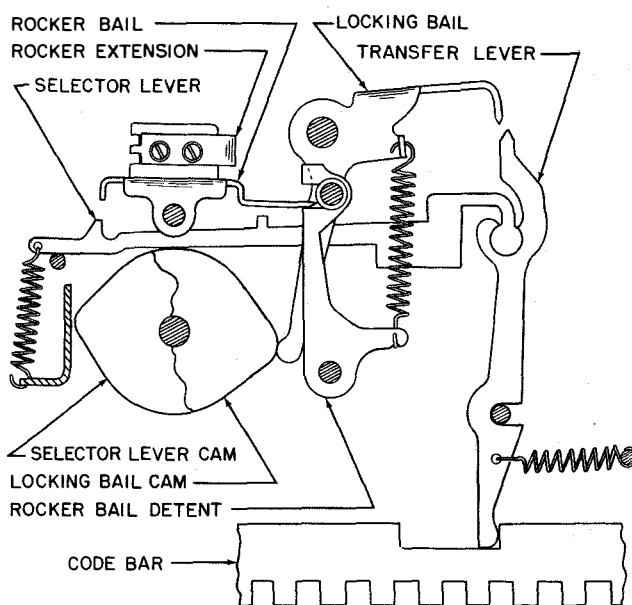
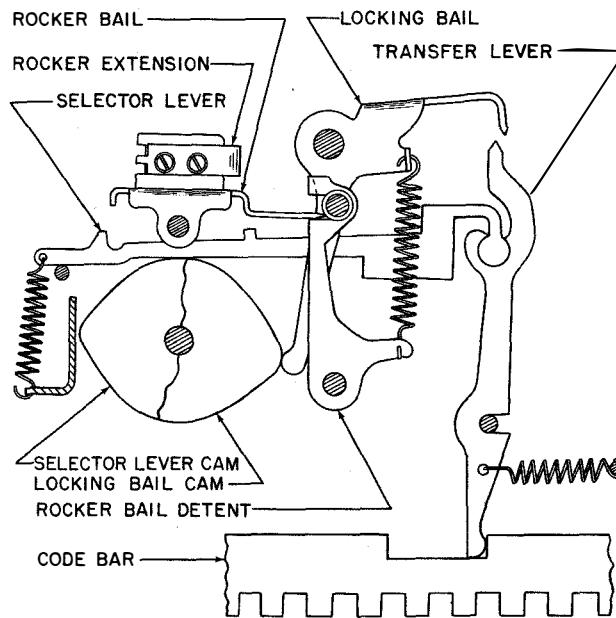
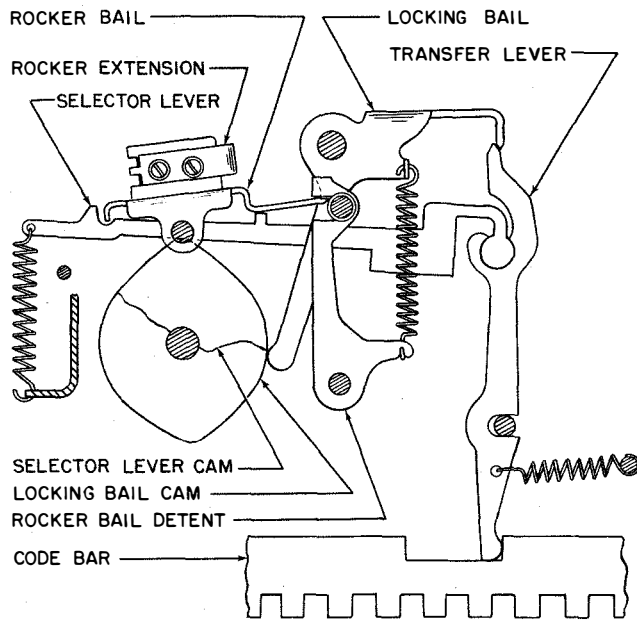

Figure 2-13. Signal Generator Mechanism, Front View
Figure 2-14. Signal Generator Mechanism, Front View
Figure 2-15. Signal Generator Mechanism, Front View
d. SIGNAL GENERATOR MECHANISM.—The signal generator mechanism is located on the top front part of the keyboard chassis. As was shown in paragraph 3.c., each of the five code bars operates its own transfer lever (figure 2-13). In addition to these five transfer levers, there are two others which are not associated with code bars and which are used to originate the start and stop pulses. The stop pulse transfer lever (seventh from the rear and located next to the fifth pulse transfer lever) is permanently positioned so that its upper end, and its associated selector lever are toward the left or selected position. The start pulse trans-
fer lever (third from rear and located between the second and third pulse transfer levers) is permanently positioned so that its upper end, and its associated selector lever are to the right or unselected position. When a code bar is unselected, the upper end of its transfer lever and its associated selector lever are positioned toward the right (figure 2-13). When a code bar is selected, the upper end of its transfer lever and its associated selector lever are positioned toward the left (figure 2-14). After the code bars have positioned their transfer levers and selector levers, the locking bail which is operated by a cam on the keyboard cam-clutch assembly drops downward between the lock projections on the upper ends of the transfer levers (figure 2-15). When the selected code bars are reset by the code bar bail, the upper ends of their transfer levers are held toward the left by the locking bail. The slotted bearings at their pivot points permit the transfer levers to shift to the left without disturbing the selection set up on the selector levers. Each of the seven selector levers is associated with a cam on the cam-clutch assembly. These
cams push the levers upward briefly in the order: start, 1, 2, 3, 4, 5, and stop. A rocker bail is located above the selector levers and is actuated by them. A rocker bail detent holds the bail in either of the two positions it can assume. When a selector lever which is in the unselected position (toward the right) is pushed upward by its cam, it rotates the rocker bail clockwise (figure 2-13). When a selector lever which is in the selected
position (toward the left) is pushed upward by its cam, it rotates the rocker bail counterclockwise (figure 2-15). An extension on the rocker bail is moved downward or upward respectively with clockwise or counterclockwise rotations of the bail. On the rear side of the signal generator mechanism, are located the upper or spacing intermediate lever, the lower or marking intermediate lever, the oscillating lever, the flutter lever, the detent